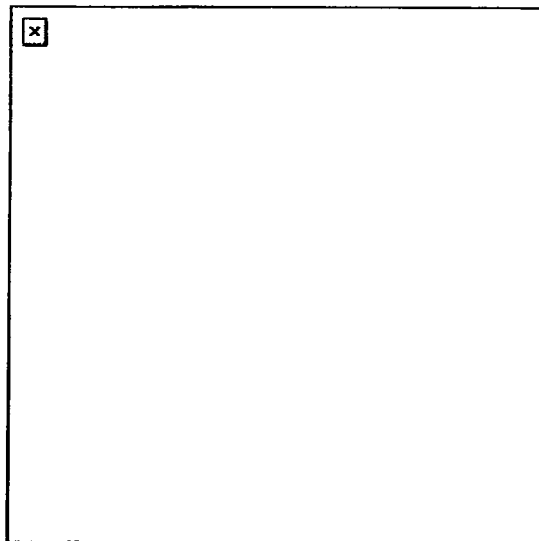

Figure 5. Alignment of gun cradle to T&E.
- e. Remove the quick release pin from the T&E mechanism. Align the holes in the T&E mechanism with the rear holes of the gun mount. Insert the quick release pin from the right side, and rotate the pin downward to the locked position (Figure 5 and Figure 6).